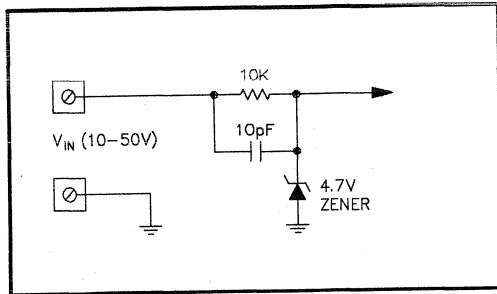
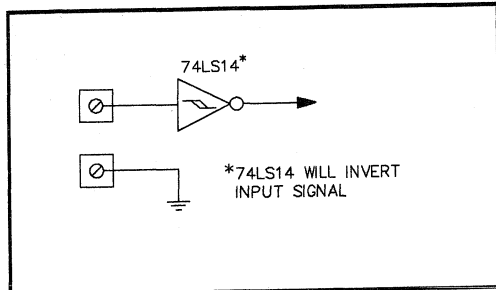

Figure 8.11. Circuit to convert large digital signals to TTL compatible levels.
Figure 8.12. Schmitt trigger circuit to "speed-up" slow input signals. The input levels must be TTL compatible.
**Digital Signal Scaling** -- For large digital signals the circuit in Figure 8.11 can be used to produce TTL compatible levels. It is generally true that most digital acquisition products require "fast" input level transitions to insure reliable operation. Usually, transitions faster than 10uS are adequate. The 10pF capacitor in Figure 8.11 is included to help preserve the high frequency components present in the input signal. However, if a given input is not fast enough, it can be made TTL compatible with the Schmitt trigger circuit shown in Figure 8.12. These networks are compatible with all PCI digital and counter input products.